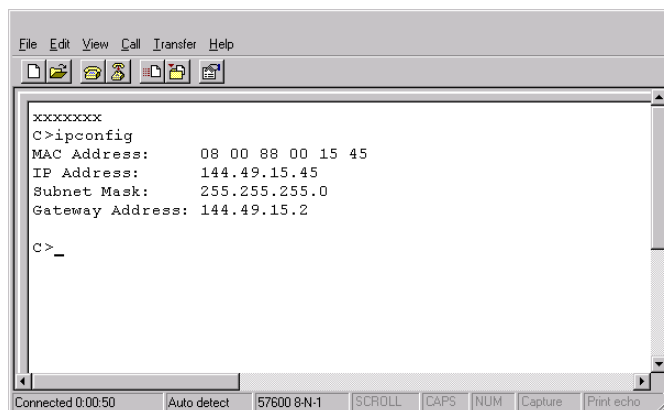

Figure 18: HyperTerminal window
10. At the C> prompt, enter `ipconfig` and press **Enter**. The HyperTerminal window displays, as shown in Figure 18.